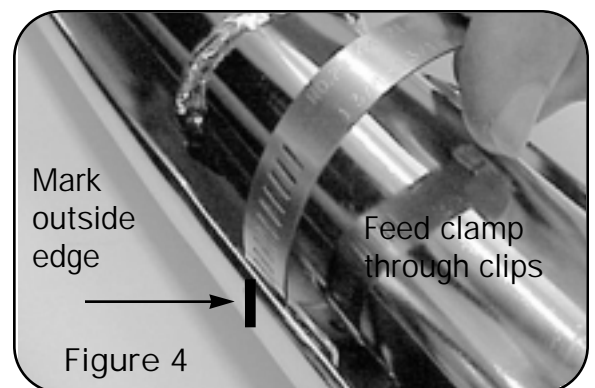

Figure 4
5. Loosely install each hose clamp by feeding tail end of clamp into heat shield clip (Figure 4). Use #20 hose clamps for head pipe areas and #36 hose clamps for muffler areas. Take note of clamp screw head direction (Figure 5). Screw head should be accessible when system is installed on motorcycle for adjustment purposes. Note: Do not tighten yet.